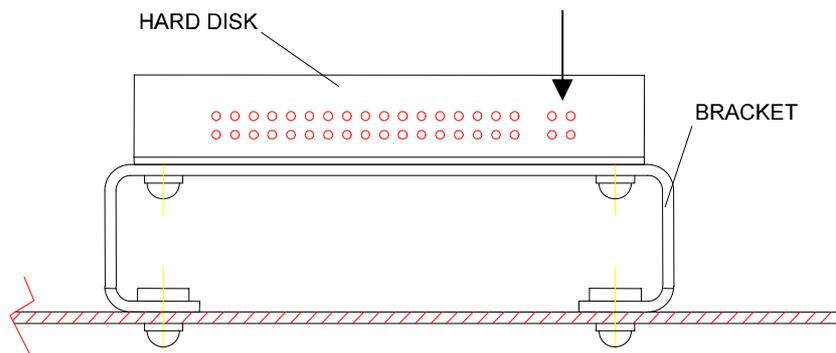

Figure 4-13: Connectors
8. Make sure that all the connectors are firmly in place and properly installed (in Figure 4-13:).